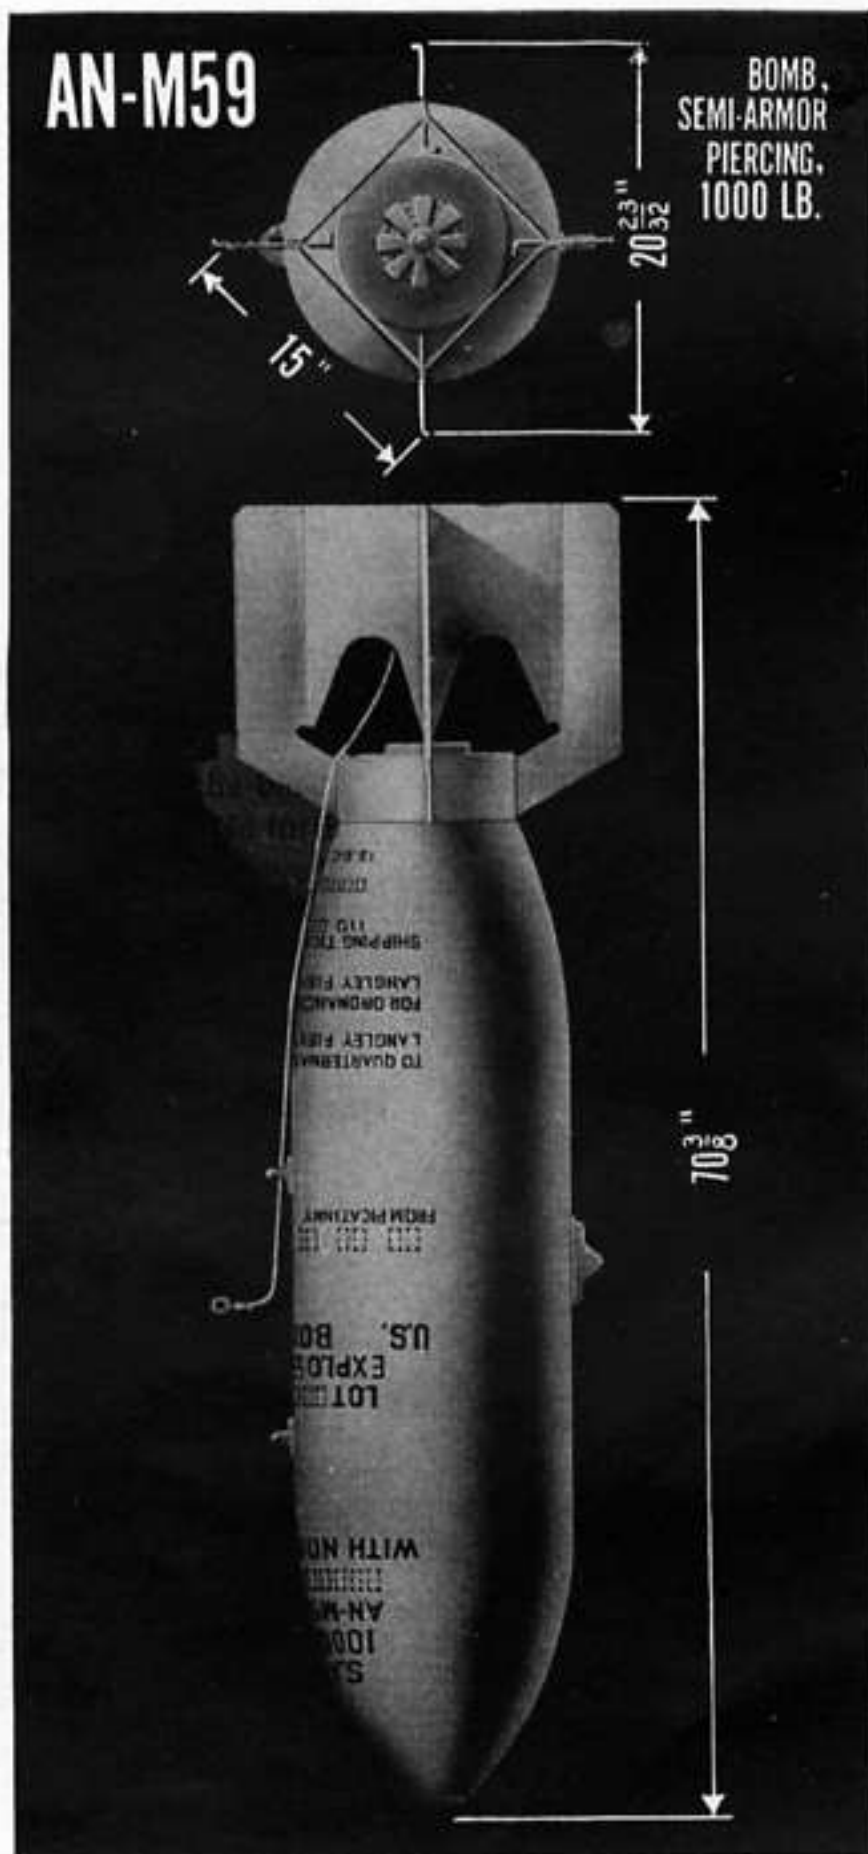

Figure 96. BOMB, S.A.P., 1000-lb., AN-M59.
82. BOMB, S.A.P., 1,000-LB., AN-M59. a. Data. BOMB, S.A.P., 1,000-lb., AN-M59, is a cylindrical bomb which is 70.4 inches long and weighs 990 pounds, as released. (See fig. 96.) The bomb body is 57.3 inches in length and 15.1 inches in diameter. It weighs 970 pounds of which 303 pounds, 30.5 percent of the complete round, is explosive charge.